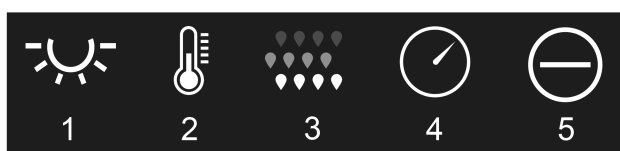

Figure 43: Status icon for the channel function "2-byte value transmitter"
Similarly to the status value, a symbol (C) can be displayed in the lower display area. The symbol displayed is configured in the ETS (figure 43).